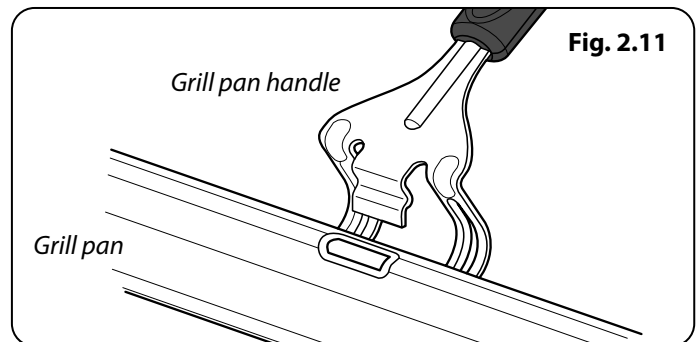
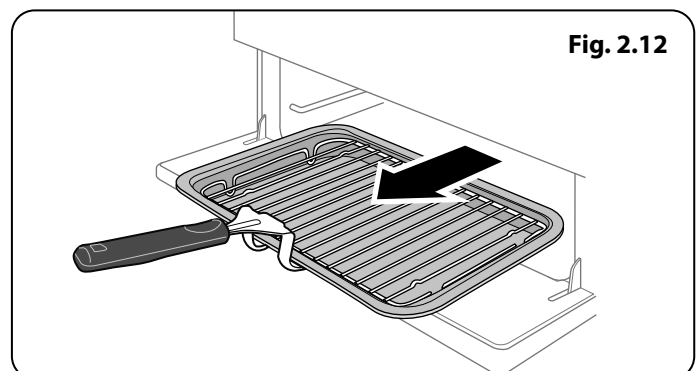

Fig. 2.11
Fig. 2.12
Attach the grill pan handle (**Fig. 2.11**). Ensure the grill pan handle is centralised and secure. Remove the grill pan from the grill chamber (**Fig. 2.12**).
- Insert the accessory to the correct position inside the oven (**Fig. 2.12**).